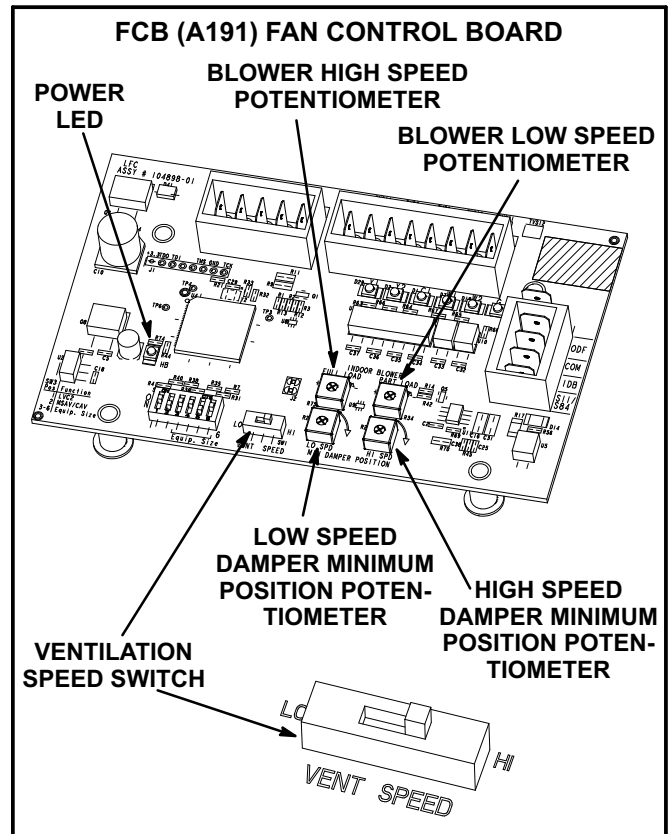

FIGURE 24
See figure 24.
To save energy during ventilation, the blower speed can be set to low. This is accomplished by changing the ventilation speed switch on the FCB control board to "LO". See figure 24.
To maintain required minimum ventilation air volumes when the unit is in the occupied mode, two minimum damper positions must be set. A high and a low speed potentiometer are provided on the FCB control board to adjust minimum damper position. See figure 24.
- 5- Check the power LED on the board. See figure 24.